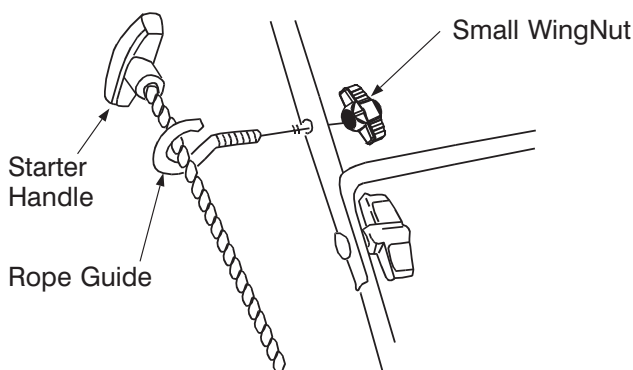

Figure 6
- Secure with small wing nut. See Figure 6.